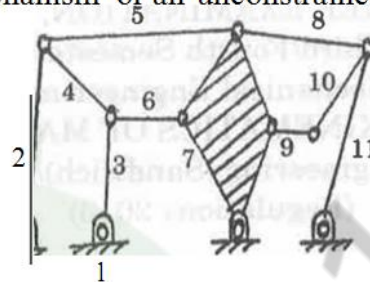

Fig. 11 (a)
**20. a) i)** State and brief the Kutzbach criterion for planar mechanisms and using this criterion, determine the arrangement shown in Fig. 11 (a) as a structure or a constrained mechanism or an unconstrained mechanism. (6)